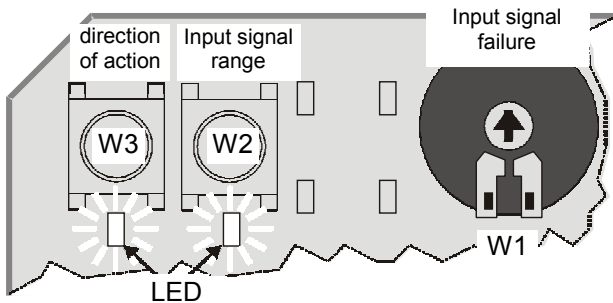

Fig. 1. Pushbuttons and potentiometer (default positions)
① Factory setting; can be reversed by pressing the right-hand pushbutton (W3) located on the PCB (see Fig. 1).
The range of the analog input signal Y can be changed by pressing the right-hand pushbutton (W2) located on the printed circuit board (see Fig. 1). If the corresponding LED is lit, this indicates that the actuator is set for 0...10 V operation (factory setting); if it is dark, the actuator is set for 2...10 V operation.
Using the potentiometer (W1) located on the printed circuit board (see Fig. 1), the actuator can be adjusted such that in case of a signal input failure (e.g. a broken wire), the actuator will run to any pre-configured position between 0% and 100%. The factory setting is with the actuator stem in the central position (50%).
The direction of action can be reversed by pressing the left-hand pushbutton (W3) located on the printed circuit board (see Fig. 1). If the corresponding LED is lit, this indicates that the actuator stem will retract at a control signal of 0(2) Vdc (factory setting); if it is dark, the actuator stem will extend at a control signal of 0(2) Vdc.